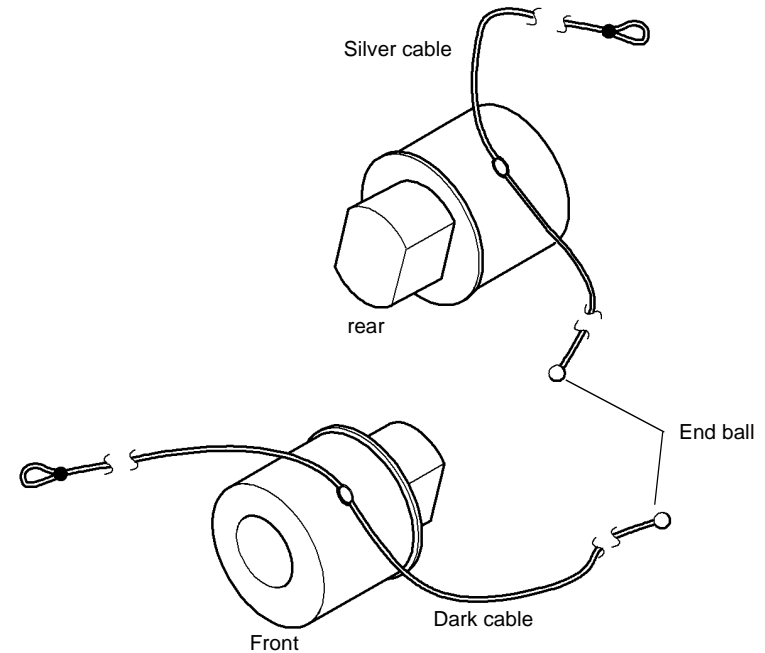

Figure 3 Winding start position
3. Place the rear cable in the position shown in Figure 3. Hold in place on the capstan with adhesive tape.